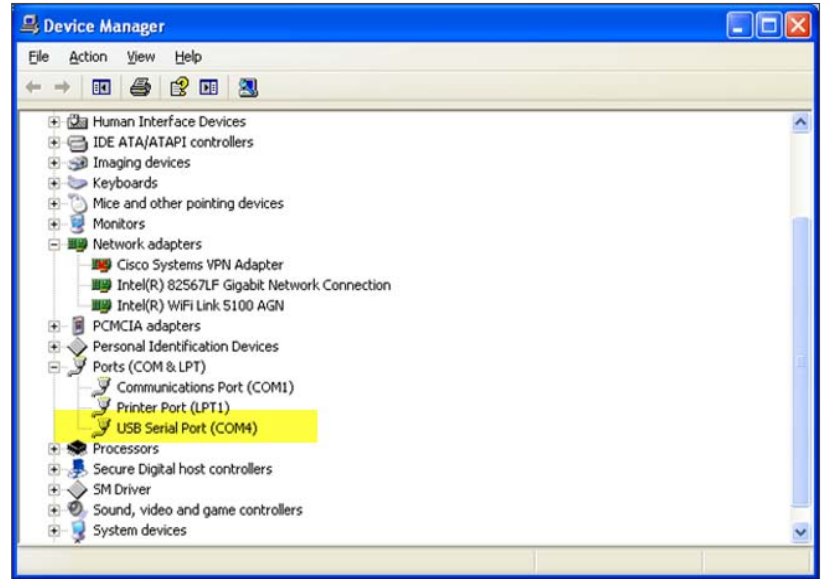

Fig. 22
10. In the Device Manager window, scroll down the list until *Ports (COM & LPT)* is found. Expand that entry and look for *USB Serial Port (COM?)* (Fig. 22). The ? (question mark) is the port number being used by your computer for DTMAC term (in this case, *COM4*).